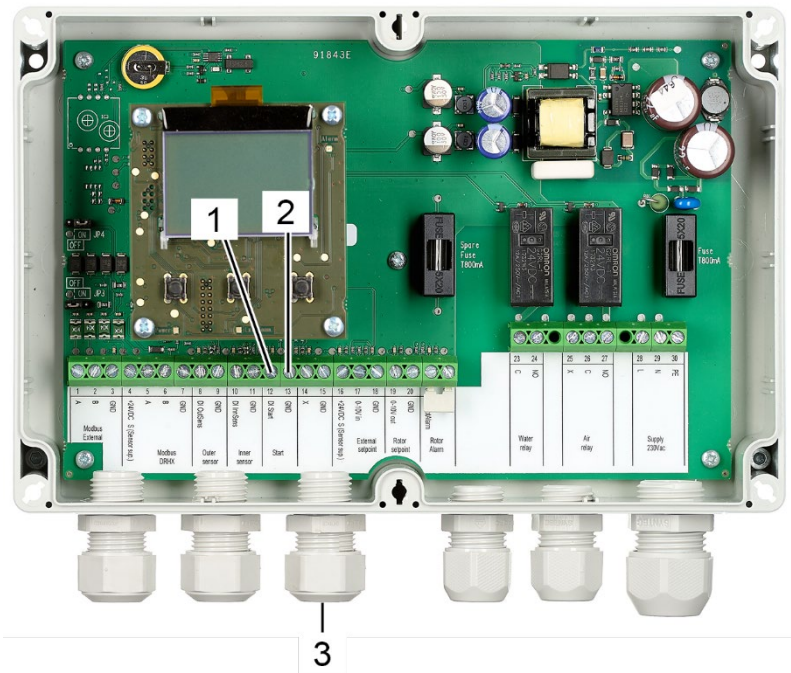

Fig. 92: Terminals external start signal
30. Insert the external start wires through the cable socket (Fig. 92/3).
31. Connect the external start input signal wire to terminal 12 (Fig. 92/1, DI Start).
32. Connect the external start ground wire to terminal 13 (Fig. 92/2, GND).